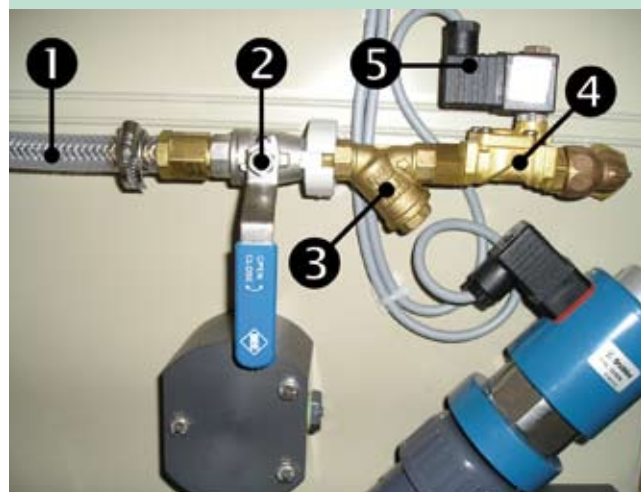

Fig. 4)
- ❺ Feed fittings for mounting tap water connection (see Fig. 4).